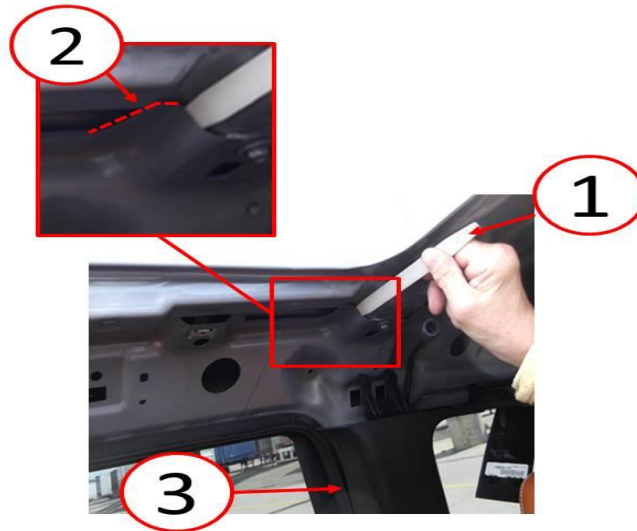

Fig. 3 Dual Pane Sunroof Reinforcement
5. Insert trim stick C-4755 (1) at the location shown in (Fig. 3). Can the metal be easily moved by moving the trim stick left to right?
6. Clean and prepare the sheet metal flange identified in (Fig. 3) for application of structural adhesive per the adhesive manufacturer's recommendations.
7. Apply Lord Fusor 112B structural adhesive or equivalent at the sheet metal flange location identified by the dashed line in (Fig. 3).